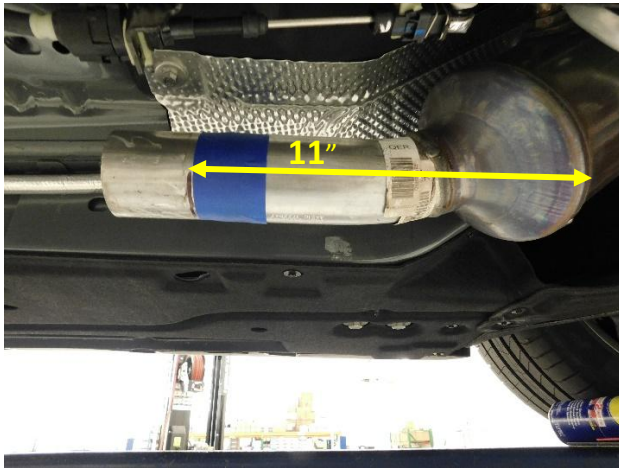
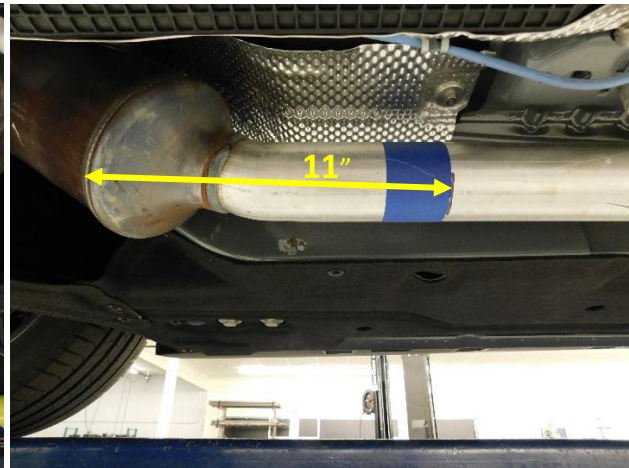

Figure.6
Figure.7
1. Making the cuts to the front pipes after the catalytic converters. **Fig.6** and **Fig.7**
- Use a reciprocating saw or cut off wheel and cut the exhaust at the edge of the tape as shown in **Fig.6** and **Fig.7**